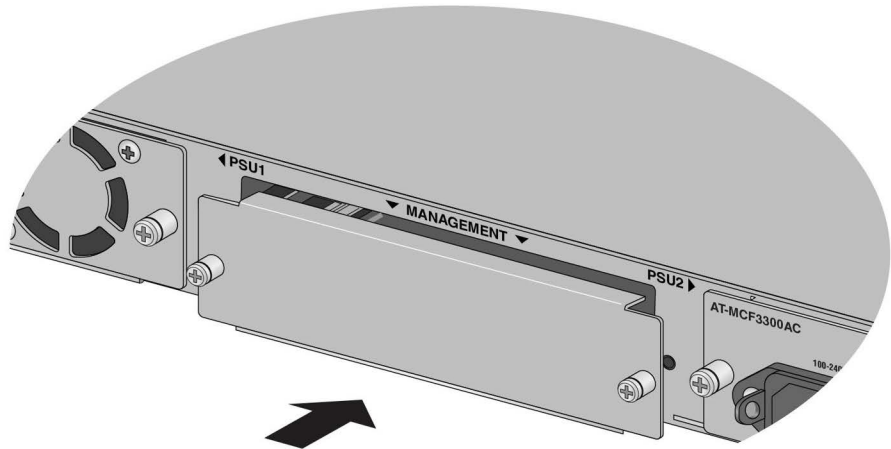

Figure 85. Installing the Blank Management Slot Cover
7. Position the blank cover over the management module slot. Refer to Figure 85.